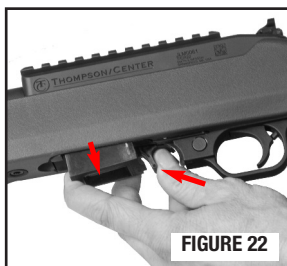

FIGURE 22
- Press magazine release and remove magazine (FIGURE 22).